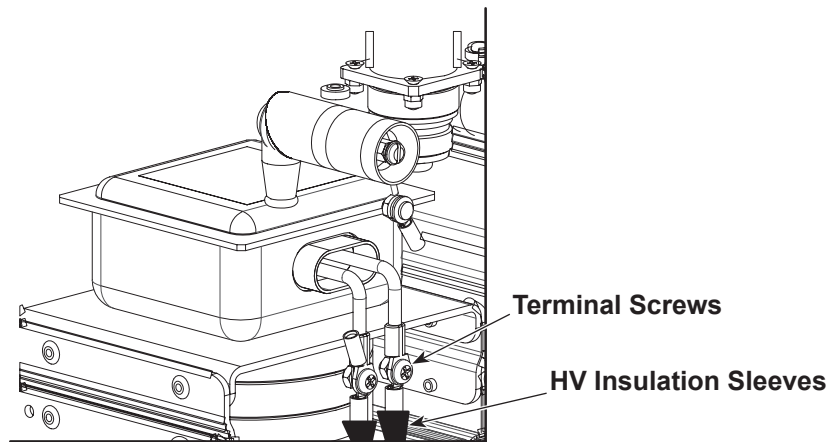

Figure 6-19 Magnetron Removal
2. See Figure 6-19. Cut the four ties securing the black high-voltage (HV) insulation sleeves to the HV cables. Slide the sleeves down to expose the two ring-tongue terminal connections.
2. See Figure 6-19. Cut the four ties securing the black HV insulation sleeves to the HV cables at the magnetron. Slide the sleeves down to expose the ring-tongue terminal connections.
13. See Figure 6-19. Use the screws removed in step 3 to connect the X2 secondary cable to the magnetron F terminal pigtail. Connect the X1 secondary cable and the 20 AWG HV cable with ferrite to the FA terminal pigtail.